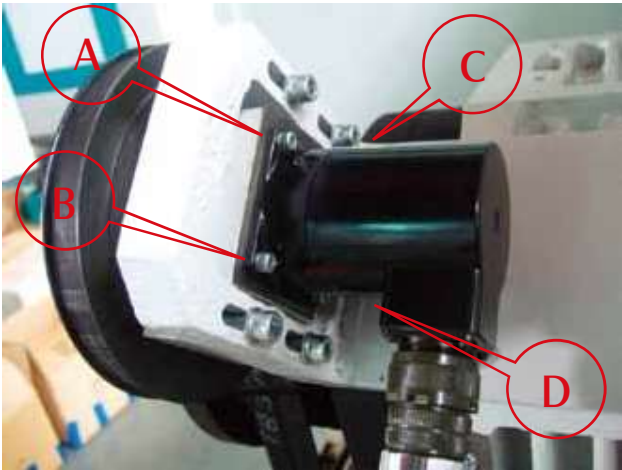

Fig. 2
- Step5. Use Hexagon Wrench M5 to disassemble the 4 screws of encoder and remove the encoder from machine carefully (see A/B/C/D in Fig. 2).